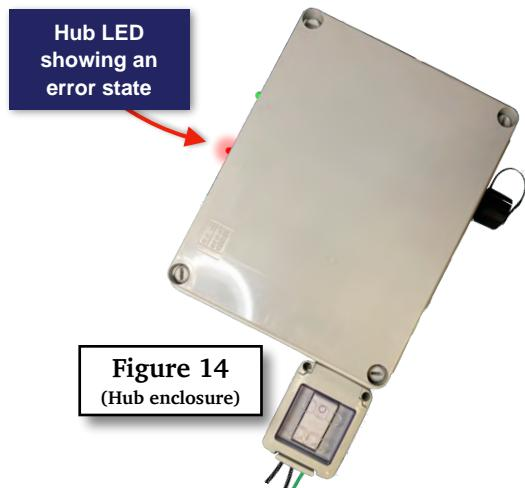

Figure 14
2 If Hub has Red LED illuminated, (See Figure 14) turn switch power to "OFF" and wait 5 minutes for super capacitors to discharge. Then, turn power back to "ON" position. If Green light is now illuminated, no further action is required. If Red LED is still illuminated, remove Hub enclosure from pole and replace Hub enclosure. The replacement Hub enclosure must be pre-programmed to recognize associated Nodes when 120 volt source power is connected to it. Hub and associated Nodes will follow commissioning step number 2 until system is operational. **If Hub is still not operational at this time, please call (262) 279-3812, and a technician will further assist you.**